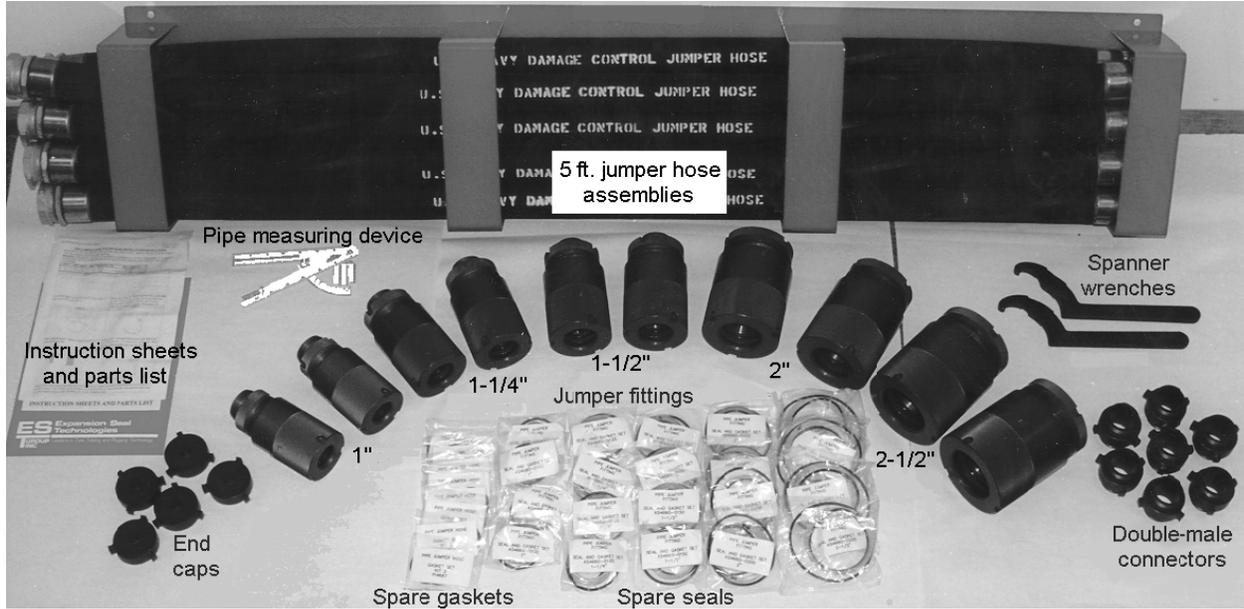

FIGURE 2-3 PJHS Kit No. 2
2-1.4 PJHS Kit No. 2. Contents. Kit No. 2 can be used for re-joining fluid system pipeline systems ranging in size from 1-inch to 2-1/2 inches Nominal Pipe Size (NPS). The kit consists of sets of jumper fittings, jumper hose assemblies (manufactured from commercially available aircraft refueling hoses), and associated components. The Kit No. 2 jumper hose assemblies and jumper fittings are permanently fitted with 1-1/2 inch Navy Standard (NPSH) threaded hose couplings. The kits eight (8) individual five (5) foot jumper hose assemblies can be used individually, or they can be joined end to end using the double male NPSH fittings included in the kit. A photograph of Kit No. 2 is contained in FIGURE 2-3. The Kit No. 2 parts list is shown in TABLE 5-2 on page 5-5. The Kit No. 2 parts are depicted in FIGURE 5-2 on page 5-6.